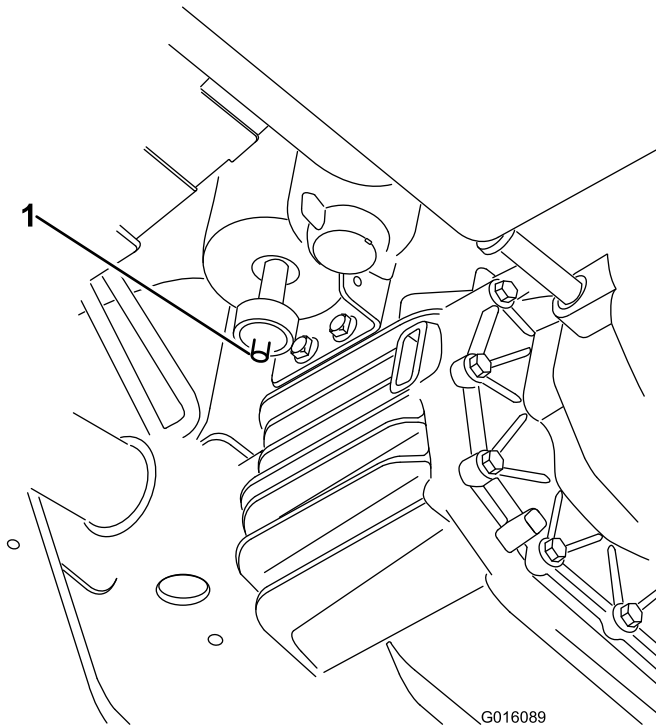

Figure 39
1. Locate the air filter on the bottom of the carbon canister (Figure 39).